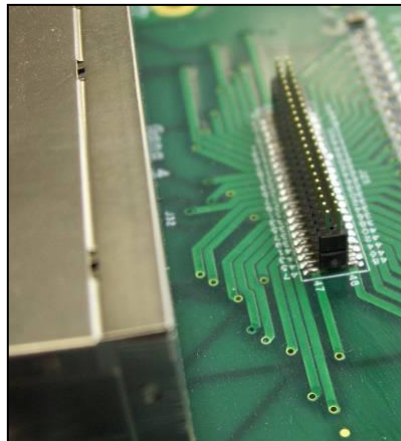

Figure 9: Port Connection
2. Port Connection (see Figure 9)